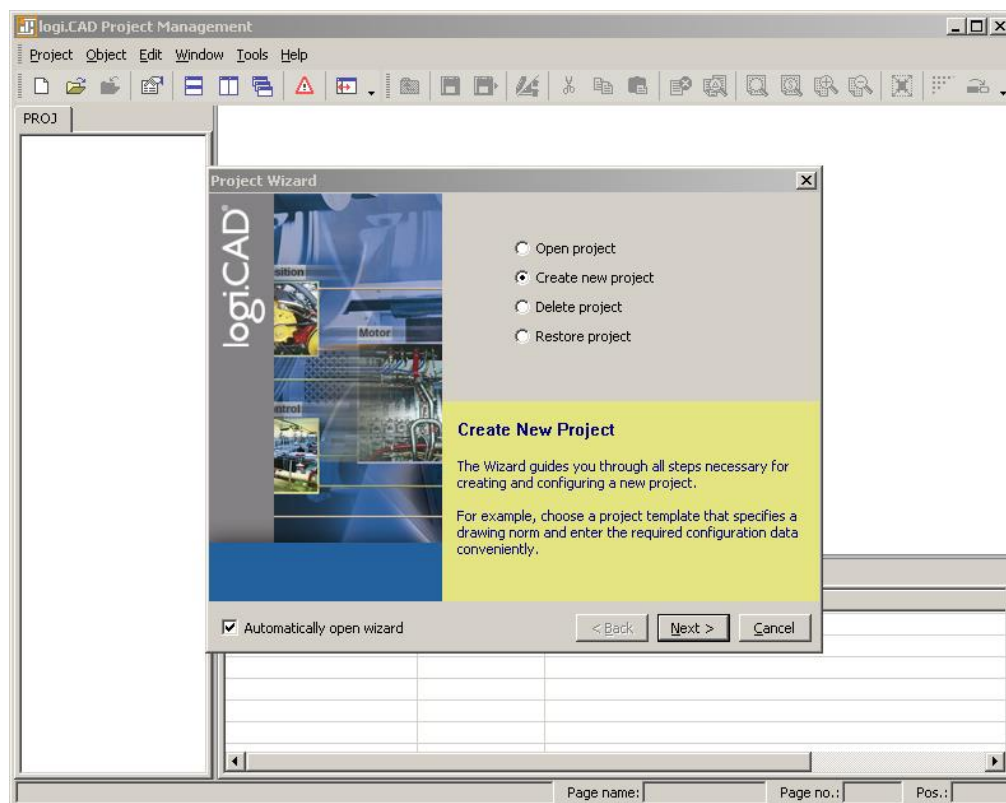

Figure 46: logiCAD project wizard
2. The project wizard starts automatically as shown in Figure 46.